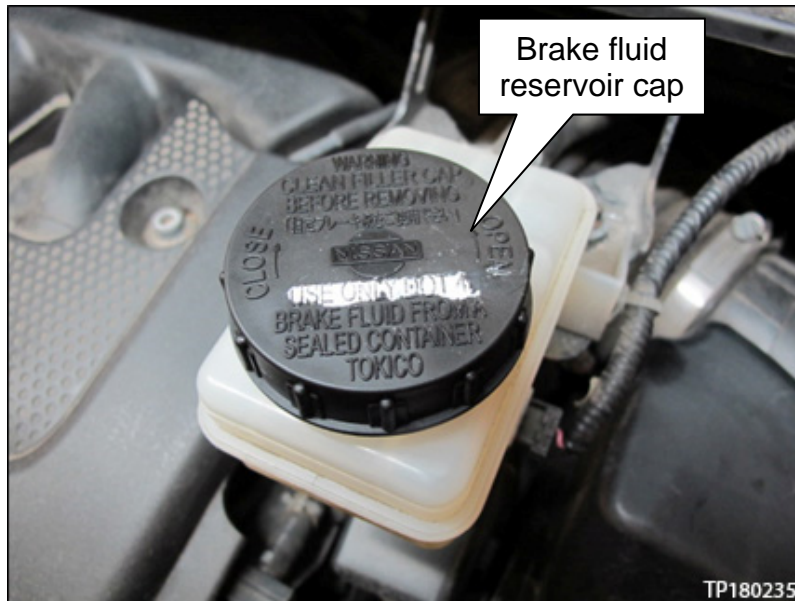

Figure 28
40. Replace the brake fluid reservoir cap (Figure 28) with the new DOT 4 cap marked in step 39.